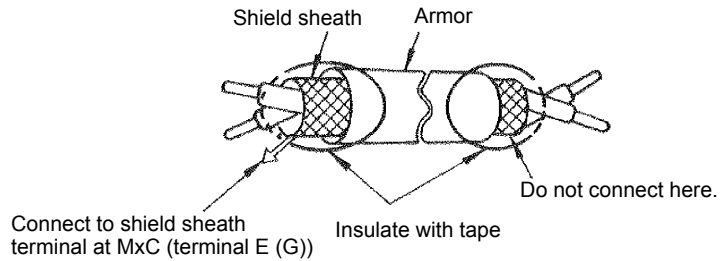

Fig 2.23 Processing the Ends of Shielded Twisted-Pair Cables
- Use shielded twisted-pair cables for control circuits to prevent operating faults. Process cable ends as shown in *Fig 2.23*.
- Connect the shield wire to terminal E (G).